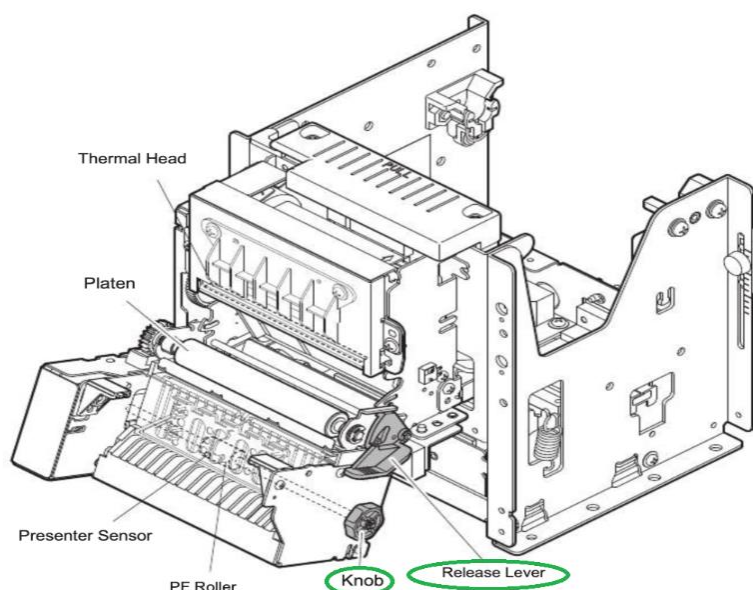

Figure 85. Printer
- Open the platen unit using the **green** release lever, as shown in Figure 85
- Rotate the **green** knob to remove the jammed paper, as shown in Figure 85